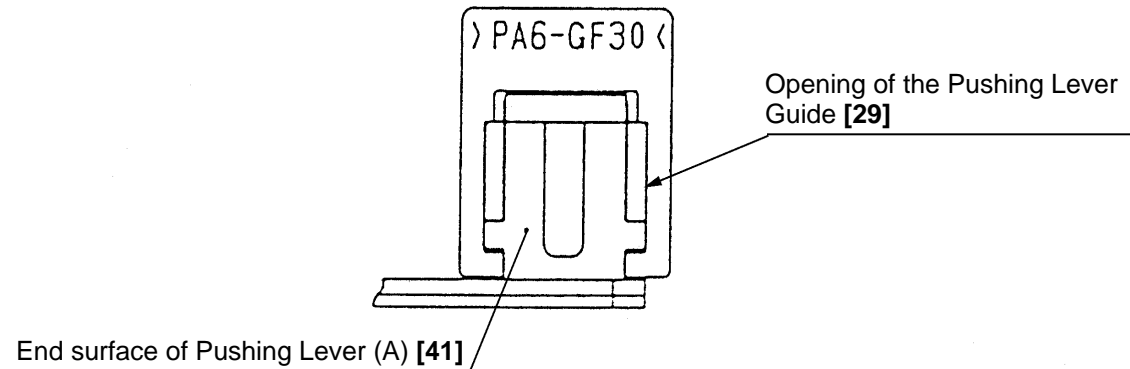

Fig. 14
- Before reassembly, check that the end surface of Pushing Lever (A) [41] is fitted in the opening of the Pushing Lever Guide [29] (Fig. 14).
- After reassembly, check that Pushing Lever (A) [41] operates smoothly.